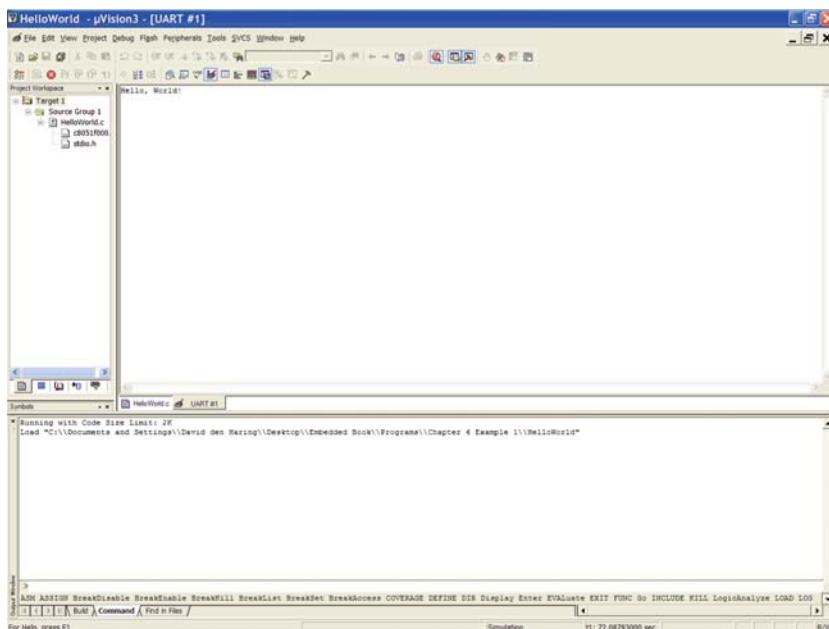

Fig. 6.10 Hello World #2 Screenshot
3. View the output of the program. Select *View → Serial Window → UART #1*. The string “Hello, World!” should be displayed in this window. See Figure 6.10 for a screenshot.